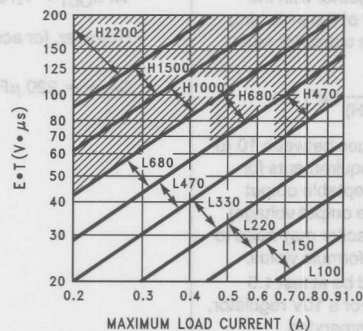

FIGURE 7. LM2575(HV)-ADJ
B. Use the $E \cdot T$ value from the previous formula and match it with the $E \cdot T$ number on the vertical axis of the Inductor Value Selection Guide shown in Figure 7.